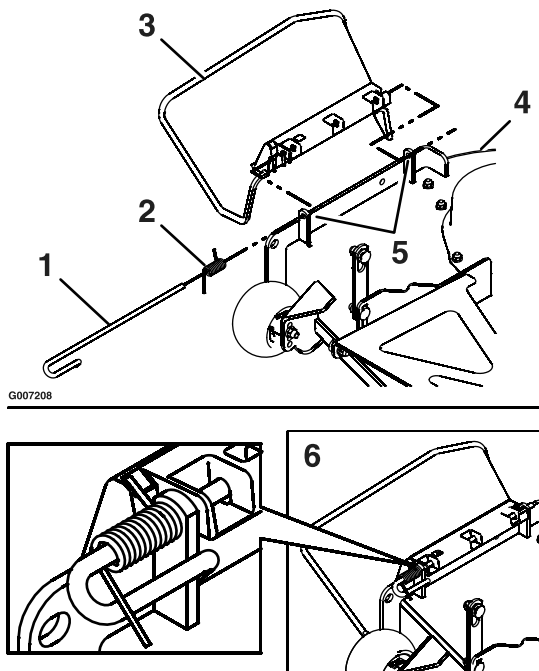

Figure 43
5. Make sure that the spring and rod are installed so that the rod is retained from sliding out by the front bracket and the spring holds the discharge deflector in the down position. Refer to (Figure 43) for proper orientation.
1. Locate items shown in Figure 43.
4. Orient the spring so that the short leg points towards the discharge deflector and the longer leg points towards the deck as shown in Figure 43. Place spring on rod and slide rod, straight end,